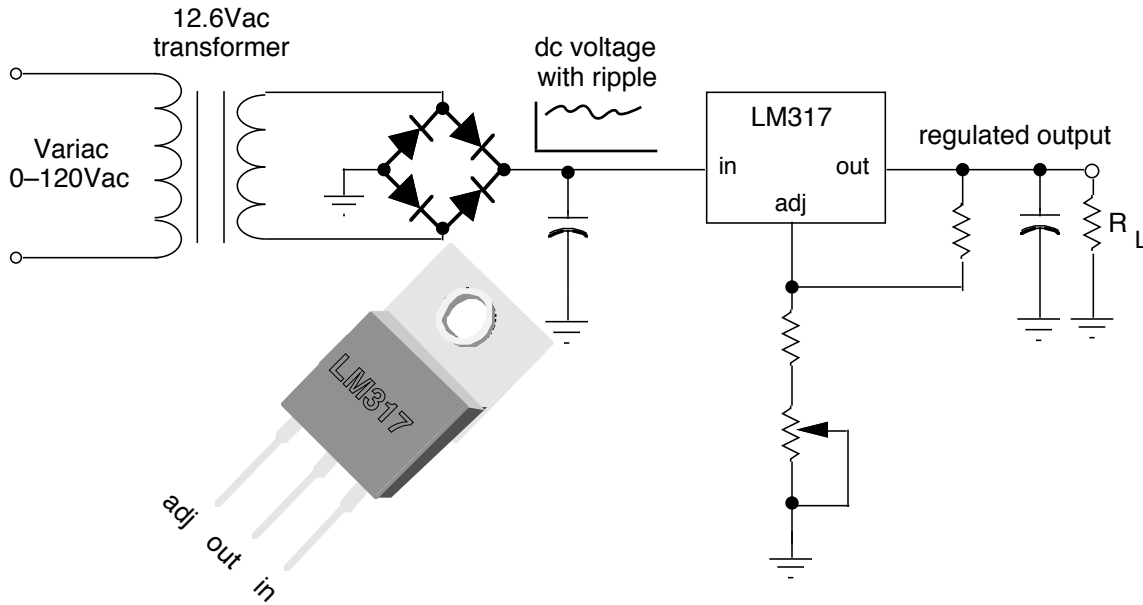

Fig. 11.2
a) Design a +5 V regulated power supply using the 317 and the diode bridge of Lab 4. The 317 maintains 1.25 V between the ADJ and OUT pins and the current in the ADJ lead is about  $50 \mu\text{A}$ . Provide a  $\pm 20\%$  voltage adjustment range with a trim pot. Figure 11.2 shows the skeleton design. Allow about 20% ripple on the output of the filter capacitor with a 1 k load. Test the regulator as in part 1. Measure the %LR, %SR and dropout voltage. Try to measure the ripple rejection.